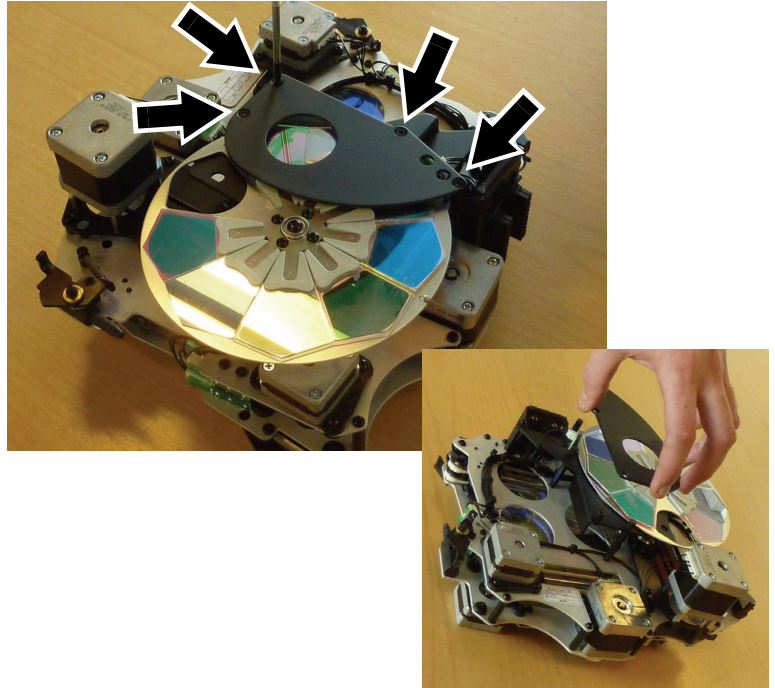

Figure 3
4. See Figure 3. Remove the four Torx M3 x 10 screws (arrowed) from the outer aperture plate and remove the plate. Keep the screws for re-use. The outer aperture plate is no longer required.